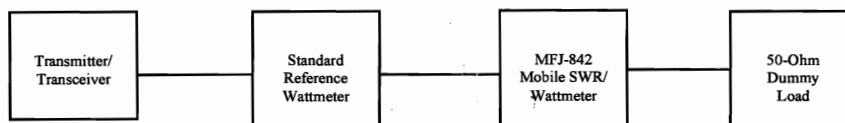
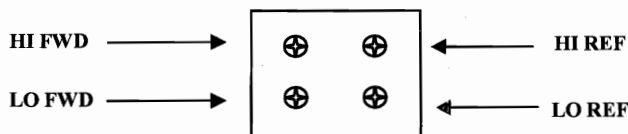

Figure 2: Test Setup
Figure 3: Trim Pot Location (Bottom View of MFJ-842)
1. In order to calibrate the meter, you must remove the rear panel of the meter by removing the screw located in between the **ANT**, and **TX**, connectors. The trim pots used to set the needles are located on the bottom. Refer to *Figure 2* for the Test Setup and refer to the Trim Pot Location in *Figure 3* for trim pot location.
2. Connect the Test Setup equipment as shown in *Figure 2*. Use a 50-ohm dummy load for the antenna. Set the Transmitter to the 14 MHz in the 20-meter band.